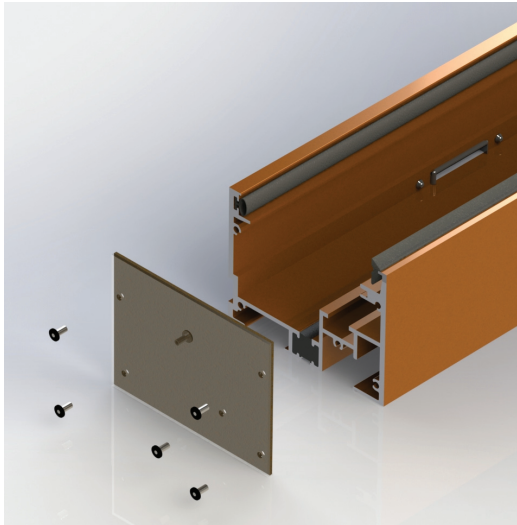

Fig. 3
- Fasten the end dam with the supplied pop-rivets. (Fig. 3)